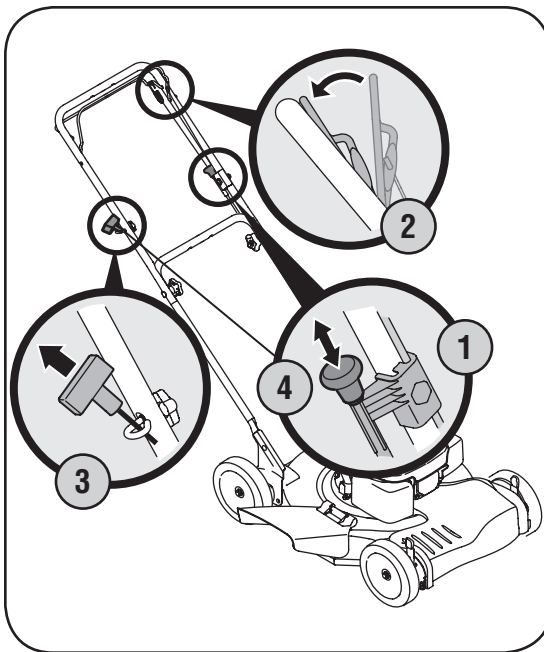

Figure 4-2
1. Pull out the choke knob located on the left side of the upper handle. See Figure 4-2.
3. Pull the starter grip lightly until resistance is felt, then pull rapidly to overcome compression, prevent kickback and start engine. Repeat if necessary. See Figure 4-2 .
4. When engine warms up, push in the choke knob. See Figure 4-2.